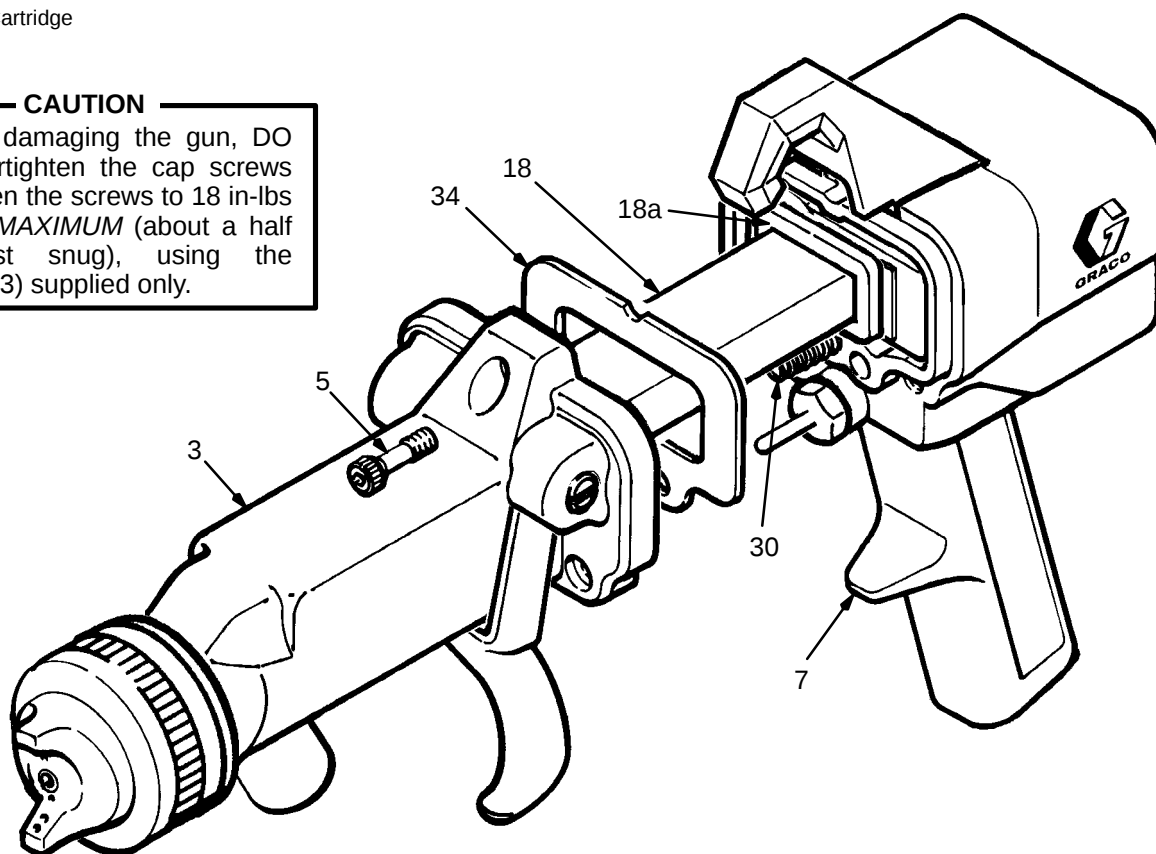

Fig 22
1. Be sure the gaskets (34 & 18a) and spring (30) are in place. See Fig 22. Replace if damaged.
2. Place the barrel (3) over the power cartridge (18) and onto the gun handle (7). Make sure the fluid needle spring (30) is seated properly.
3. Tighten the three socket head cap screws (5) oppositely and evenly with the wrench (63) supplied. Tighten the cap screws to 18 in-lbs (2 N•m) **MAXIMUM** (about a half turn past snug). **DO NOT** over tighten.